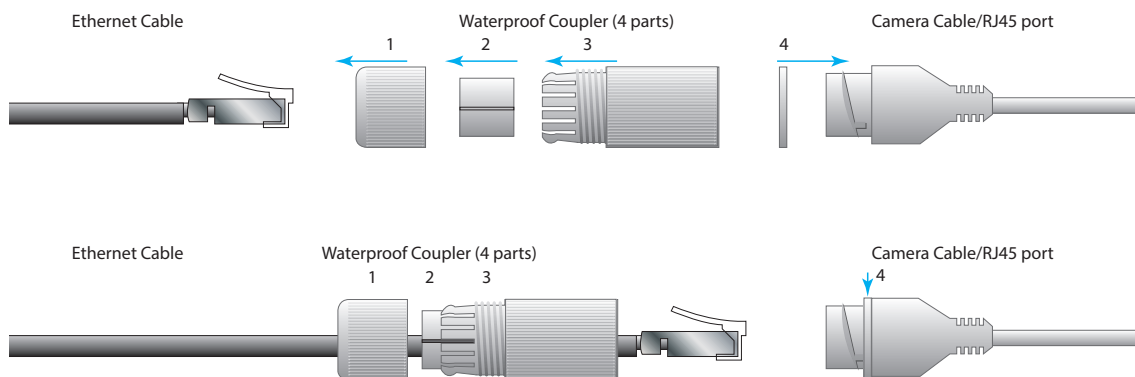

Fig. 7
10. Install the four-piece waterproof coupler that came with the camera. Three pieces (1, 2, and 3) are installed on the Ethernet cable, while the fourth piece, the thin washer (4), is inserted over the RJ45 port of the camera cable. See Fig. 7.